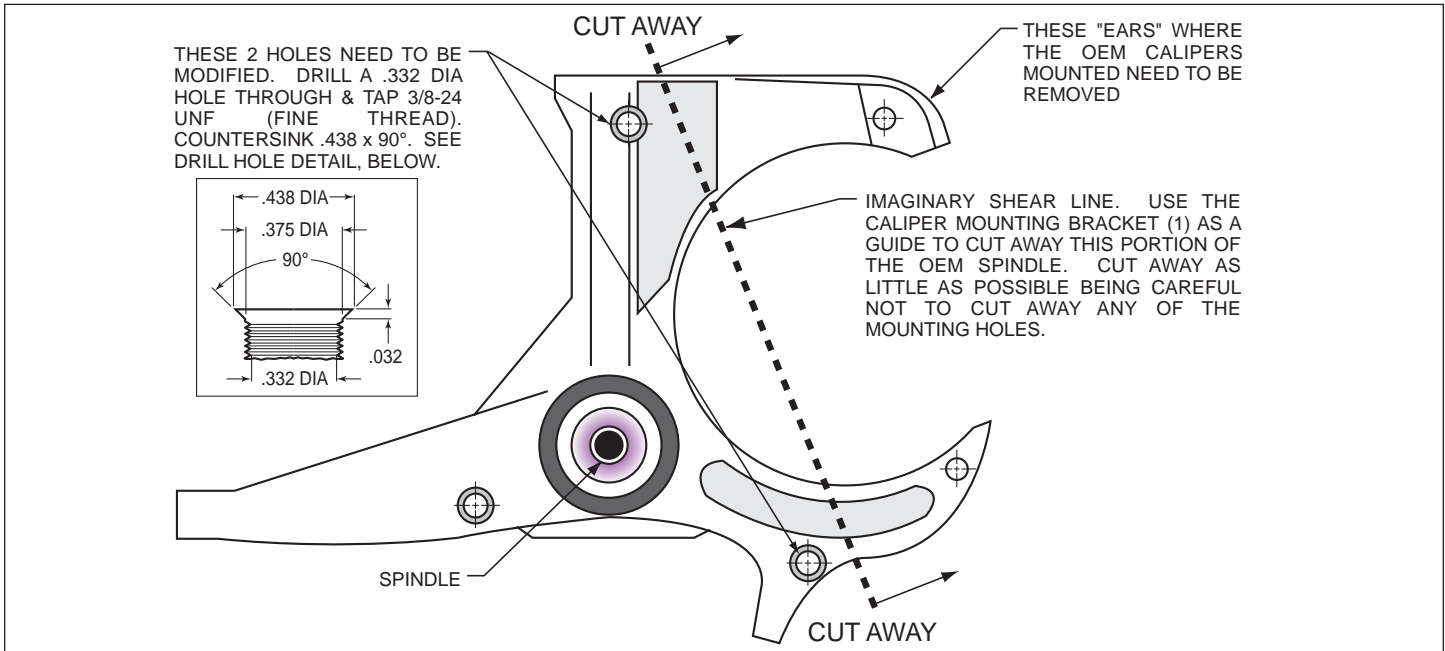

Figure 1. Steering Arm / Spindle Modifications
These modifications should be performed by a qualified machinist. Refer to Figure 1 as necessary (numbers in parenthesis refer to the parts list). Only one view of the steering arm/spindle is shown, but the modifications need to be performed on both steering arm/spindles.
- Mount the adapter/rotor assembly (8/9) to the hub (5) using bolts (11), as shown in Figure 1. Using an alternating sequence, apply red *Loctite*® 271 to the threads, and torque to 55 ft-lb.
- Pack the small outer bearing cone (12) with high temperature disc brake bearing grease and install into front of hub (5). Slide the hub/rotor assembly (5 and 9) with outer bearing cone (12) onto the spindle. Secure using stock washer, adjusting nut and nut locking device.
- Install the dust cap (15) onto the hub (5). Friction created by the o-ring (14) on the dust cap (15) keeps it from unscrewing. The O.D. of the existing spindle washer may be larger than the I.D. of the dust cap (15) not allowing it to seat against the hub face. Therefore, use the spindle washer (13) supplied with the kit instead of the stock washer.